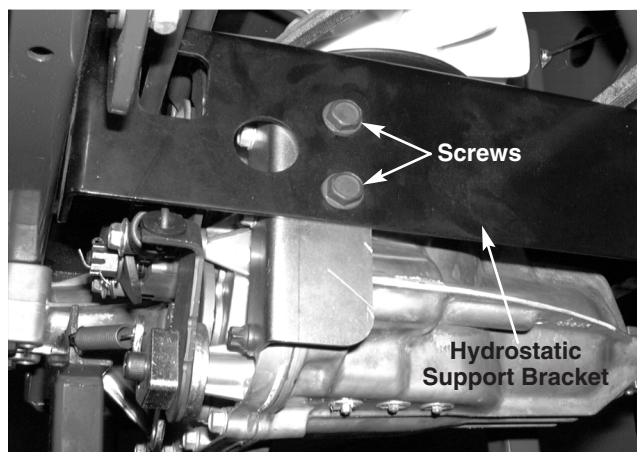

FIGURE 13.
20. Remove both self tapping screws securing the front of the hydrostatic transmission to the front hydrostatic support bracket using 1/2" socket. See figure 13.